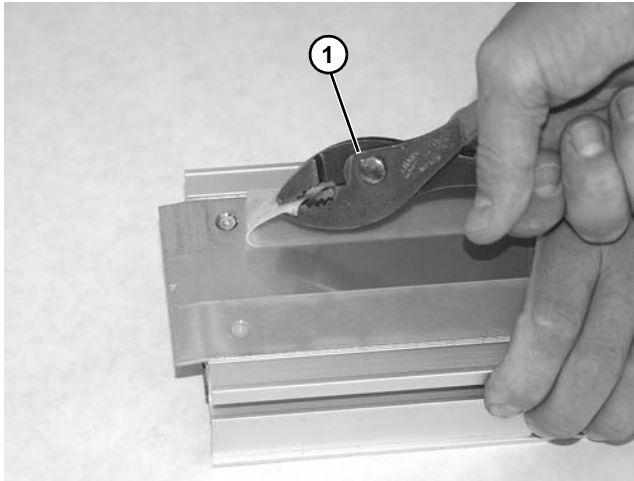

Figure 74
3. Remove old wear strip with a pliers (Figure 74, item 1).